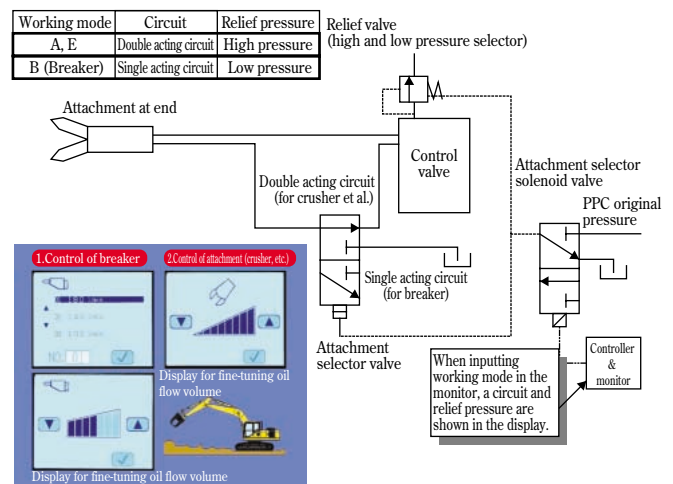

Fig. 19 Control of Attachment
(2) It is required of a hydraulic excavator as a general-purpose machine to accommodate various kinds of attachments. In order to make it easier to install and operate them, the hydraulic circuit has been designed to switch to the double acting circuit in Active Mode and Economy Mode, while switching to the single acting circuit in Breaker Mode. The underlying idea is that in the former case, installing an attachment like a crusher is anticipated that is opened and closed by hydraulic oil going back and forth, and in the latter case, installing a breaker is anticipated that is operated by hydraulic oil switching on and off. In addition, in Breaker Mode, the relief pressure is kept lower than that of Active or Economy Mode and the hydraulic oil is conducted through a high performance hydraulic oil filter in the return circuit. These functions, i.e. switching to the lower relief pressure and passing the oil through the filter, is automatically activated whenever Active Mode or Breaker Mode is selected. In this connection, an operator can adjust the volume of hydraulic oil commensurate with each attachment, as he watches a display in the monitor. (See Fig. 19)